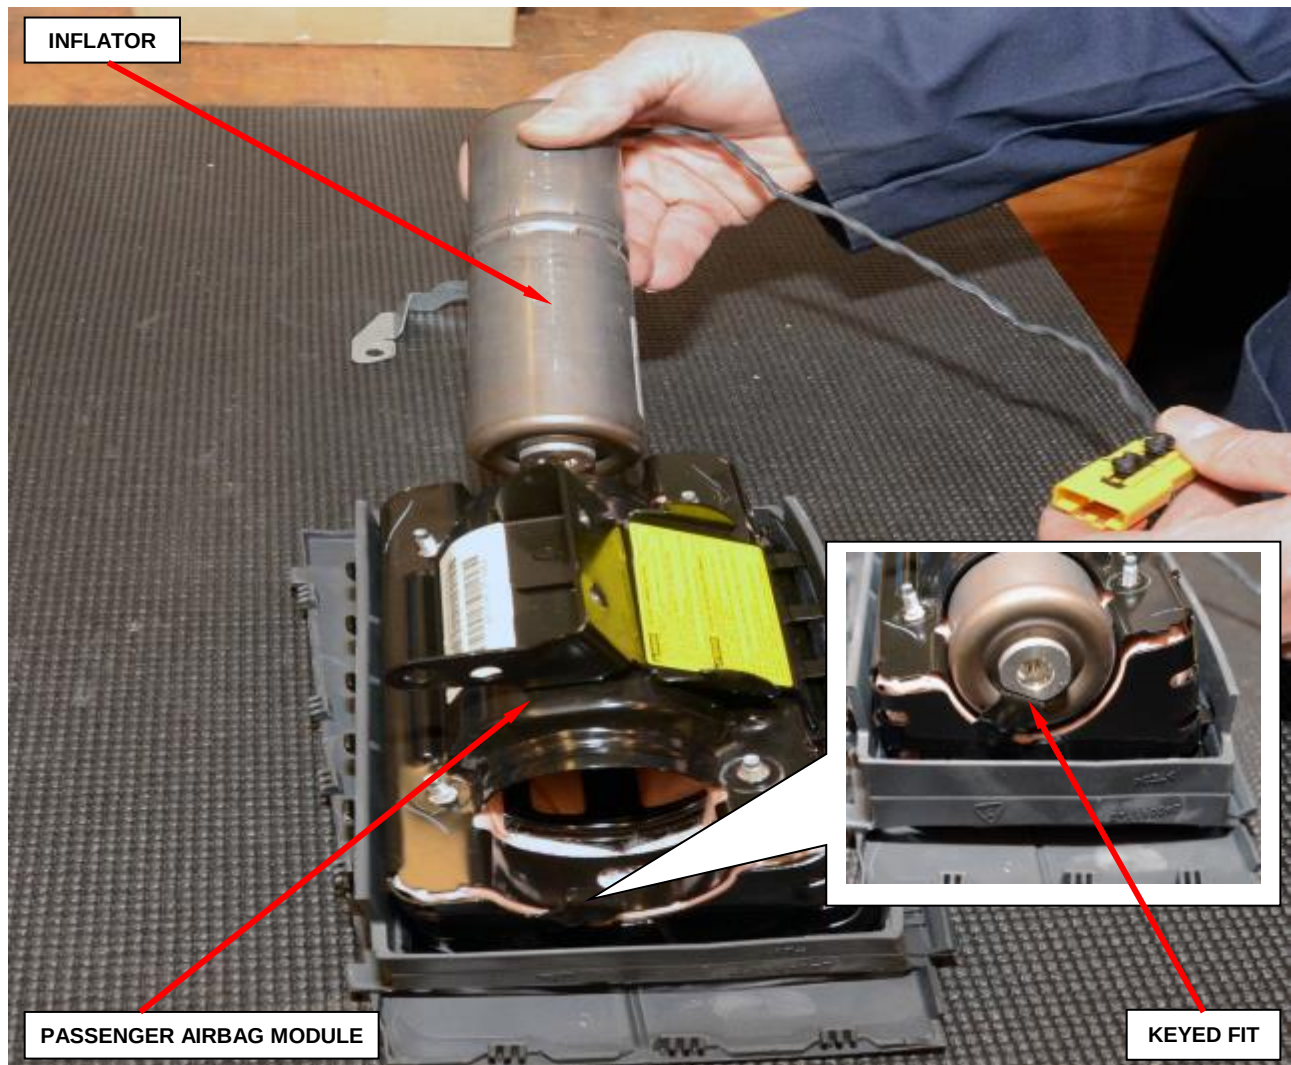

Figure 123 – Passenger Inflator Installation
- h. Remove airbag cushion from housing by applying pressure to the bolts, set cushion aside (Figure 123).